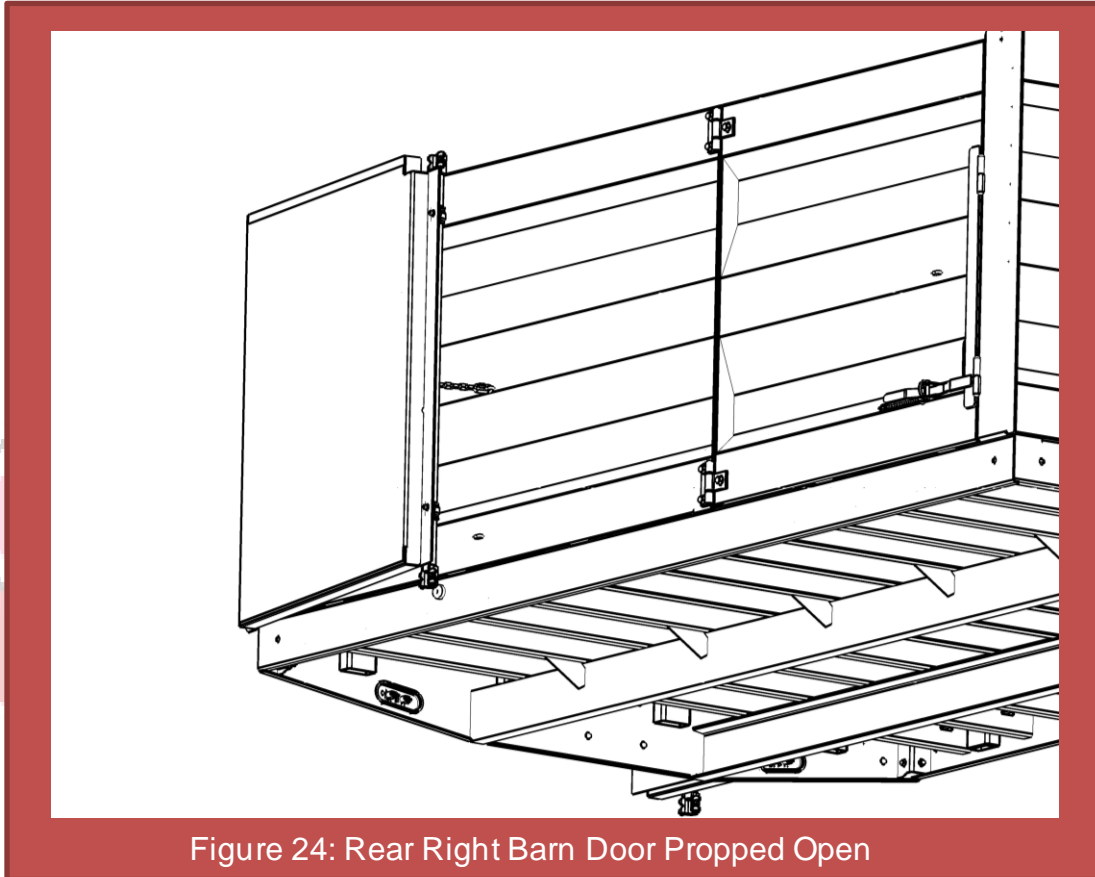

Figure 24: Rear Right Barn Door Propped Open
2. Clip the carabiner to the chain link located on the door, as shown in **Figure 24.**